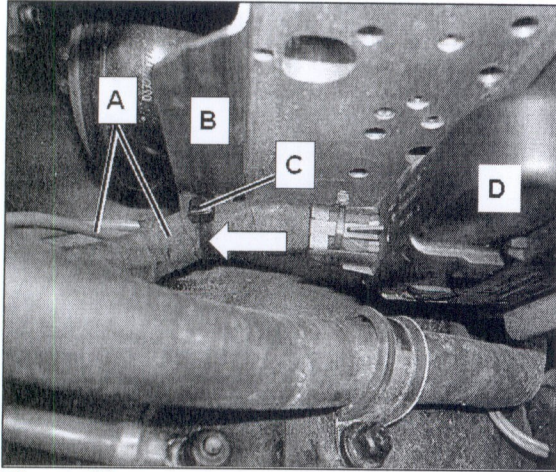

Figure 24
33. Secure ground wiring harness and SBC wiring harness (A, Figure 24) to SBC hydraulic unit bracket (B) with cable tie (arrow). Tighten cable tie (arrow) with Hellermann MK9 cable tie pliers (Special Tool: W 352 589 02 37 00) using **setting 3** on pliers.